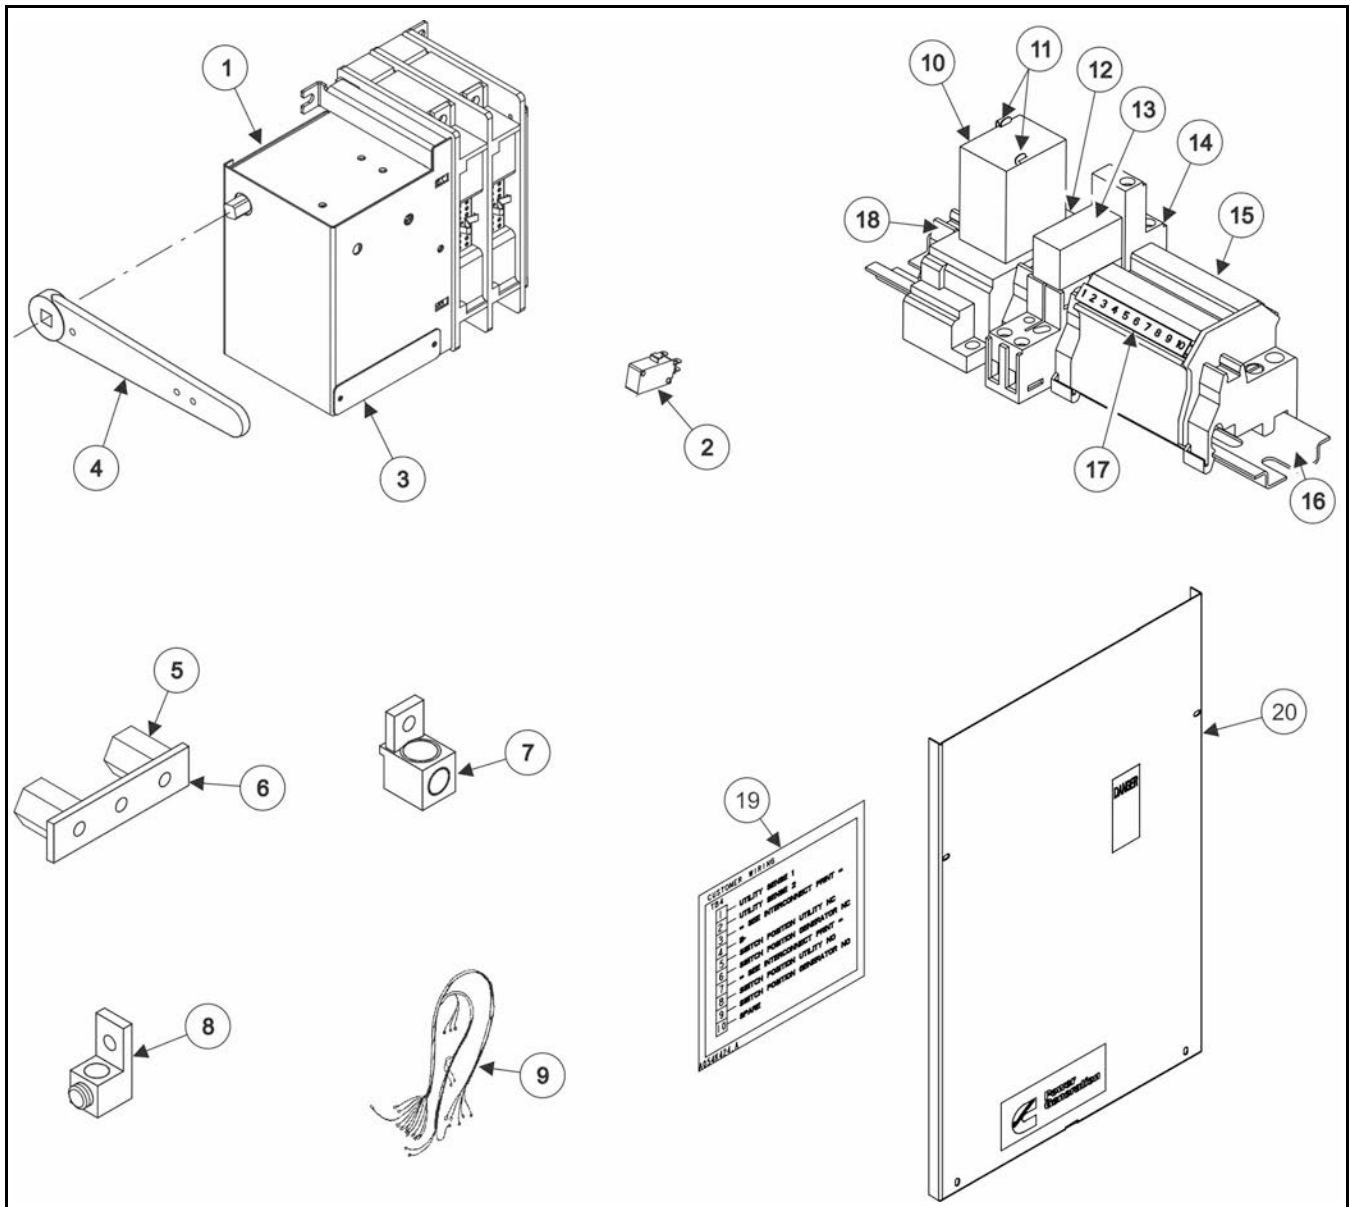

FIGURE 36. RA SERIES 100A/200A NON-SERVICE ENTRANCE MODELS
- Figure 36. RA Series 100A/200A Non-Service Entrance Models 68